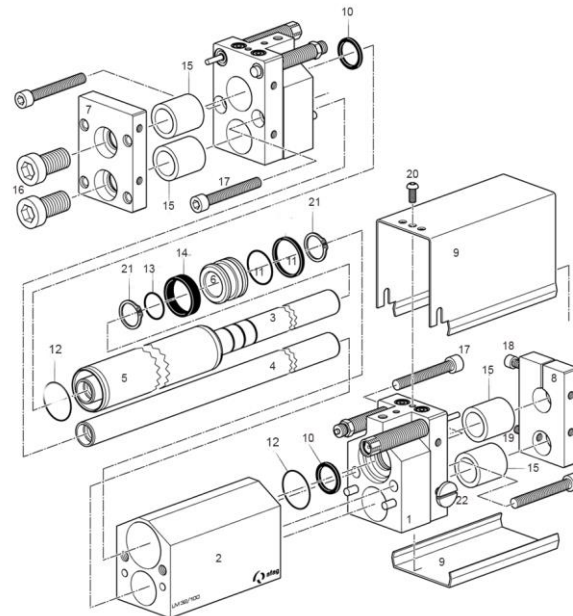

Fig. 24 Replacing the wear parts - LM 32
1. Loosen screws (Fig. 24, 20), remove protective connection.
2. Loosen the screws (Fig. 24, 17) on the intermediate part (Fig. 24, 1) at the front and rear and remove them.
3. Loosen the screws (Fig. 24, 18 / 19).
6. Remove the cylinder tube from the piston rod (Fig. 24, 3).
7. Remove the retainer rings (Fig. 24, 21) on the piston rod.
9. Extend the front plate (Fig. 24, 7) with the piston (Fig. 24, 3) and guide rod (Fig. 24, 4) out of the guide block (Fig. 24, 1).
10. Slide the guide block off the guide rod (Fig. 24, 4) and piston rod (Fig. 24, 3).
11. Remove the wear parts on the piston (Fig. 24, 6).
12. Remove the O-rings and rod seal (Fig. 24, 10) in guide blocks (Fig. 24, 1).
13. Remove the O-rings (Fig. 24, 12) from the guide blocks (Fig. 24, 1).
1. Shorten guide ring (Fig. 24, 14) for piston (Fig. 24, 6) by 1 mm with a side cutter.
2. Carefully fit the guide ring (Fig. 24, 14) onto the piston (Fig. 24, 6).
3. Carefully push the O-ring and piston seal (Fig. 24, 11) onto the piston (Fig. 24, 6)! (Do not damage the seal)!
4. Grease the linear ball bearings (Fig. 24, 15) (Blasolube 301) and carefully press them into the two guide blocks (Fig. 24, 1) (flush at the front)!
- Sealing lips of the linear ball bearings (Fig. 24, 15) must face outwards.
5. Carefully insert the rod seal and O-ring (Fig. 24, 10) on both guide blocks into the grooves of the piston rod seals.
6. Carefully insert the O-ring (Fig. 24, 12) into the two guide blocks (1)!
1. Push the front guide block (Fig. 24, 1) onto the piston and guide rod (Fig. 24, 3+4).
3. Push the piston (Fig. 24, 6) with the black piston seal forwards onto the piston rod (Fig. 24, 3) up to the retainer ring.
4. Secure the piston (Fig. 24, 6) with the second retainer ring.
5. Grease the inside of the piston (Fig. 24, 6) and cylinder tube (Fig. 24, 5) with Blasolube 301 and slide it over the piston.
6. Push the intermediate part (Fig. 24, 2) over the cylinder tube (Fig. 24, 5).
7. Slide the guide block (Fig. 24, 1) over the piston rod (Fig. 24, 3) and guide rod (Fig. 24, 4).
8. Place the rear plate (Fig. 24, 8) over the piston rod (Fig. 24, 3) and guide rod (Fig. 24, 4).
9. Tighten the screw (Fig. 24, 18) and set screw (Fig. 24, 19) on the rear plate (Fig. 24, 8).
10. Insert and tighten the screws (Fig. 24, 17) on two guide blocks (Fig. 24, 1).
- Piston rod (Fig. 24, 3) and guide rod (Fig. 24, 4) should be movable without much resistance.
- It must be possible to move the guide rods (Fig. 24, 3 + 4) with equal resistance in the base body (Fig. 24, 2).